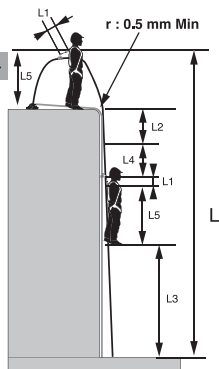

FIG. 5
- That the stopfor™ fall-arrester anchor point is located at the same height or above the edge (figures 5.a, 5.b, 5.c).
- That the angle formed by the anchor line in contact with the edge, in the event of a fall, is less than 90° (figures 5.a, 5.b).